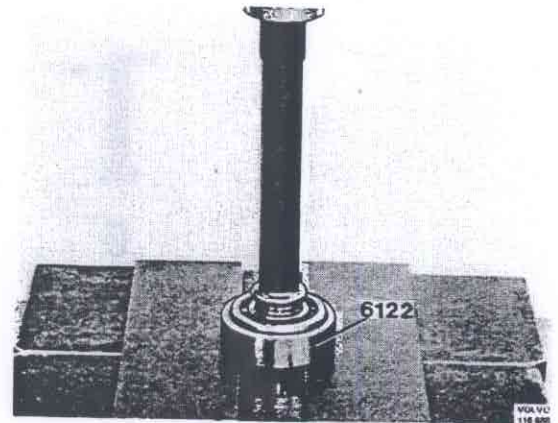

Fig 46-149 Pressing on the bearing
10. Press the bearing onto the shaft with 6122, Fig. 46-149.